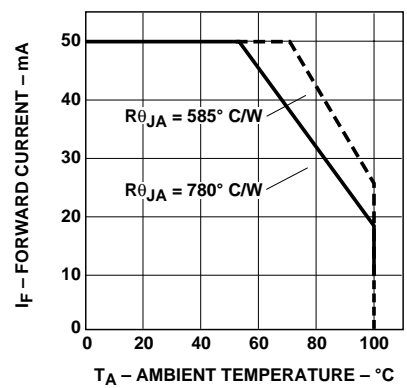

Figure 4. Maximum Forward Current vs. Ambient Temperature. Derating Based on  $T_{JMAX} = 130^{\circ}\text{C}$ .
1. Derate linearly as shown in Figure 4.